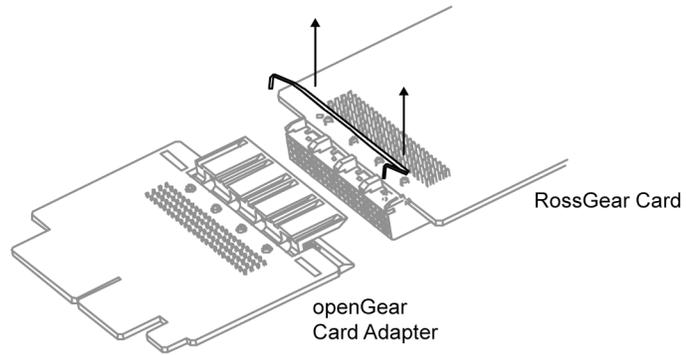

Figure 16. Disengaging the openGear Adapter Retaining Clip
7. Remove the openGear Adapter Retaining Clip from its position between the connector and the card-edge of the RossGear Card and set aside. Refer to **Figure 16** for details.